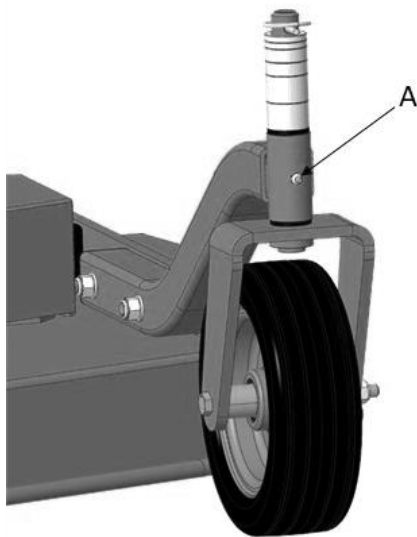

Figure 16
Lubricate the swivel wheel yokes every eight (8) hours of operation with SAE Multi-Purpose Lithium-Type Grease or equivalent. Be sure to use the grease zerks that are located on the wheel supports [Figure 16].